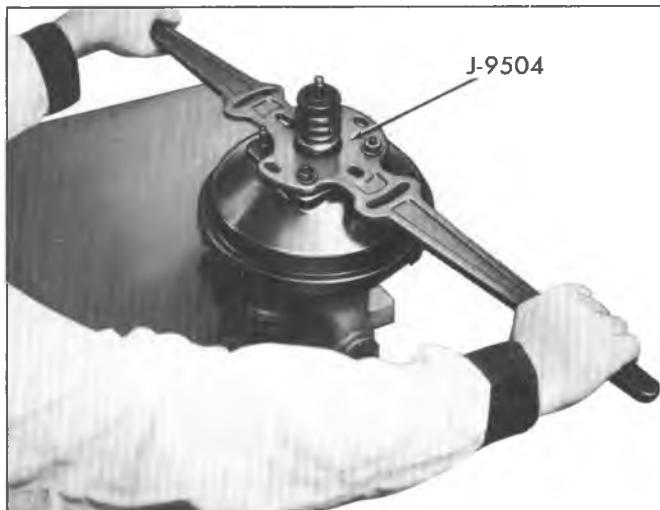

Fig. 5-3C-- Separating Housings With Tool J-9504
- a. **Straight Mounting Bracket (Fig. 5-3C)** - Place